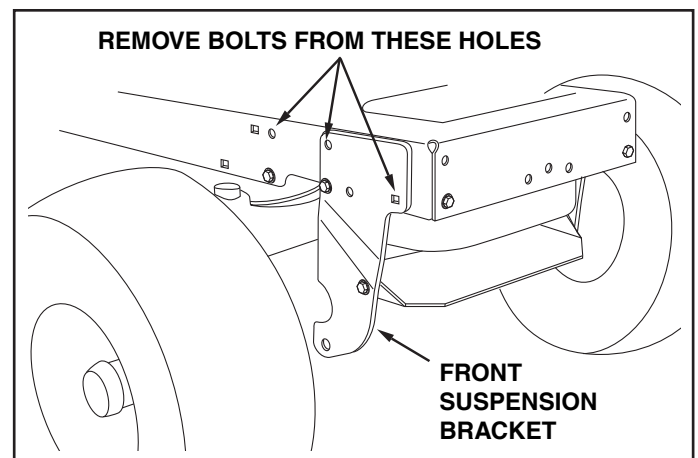

FIGURE 5
8. Remove any bolts found in the holes indicated in figure 5.